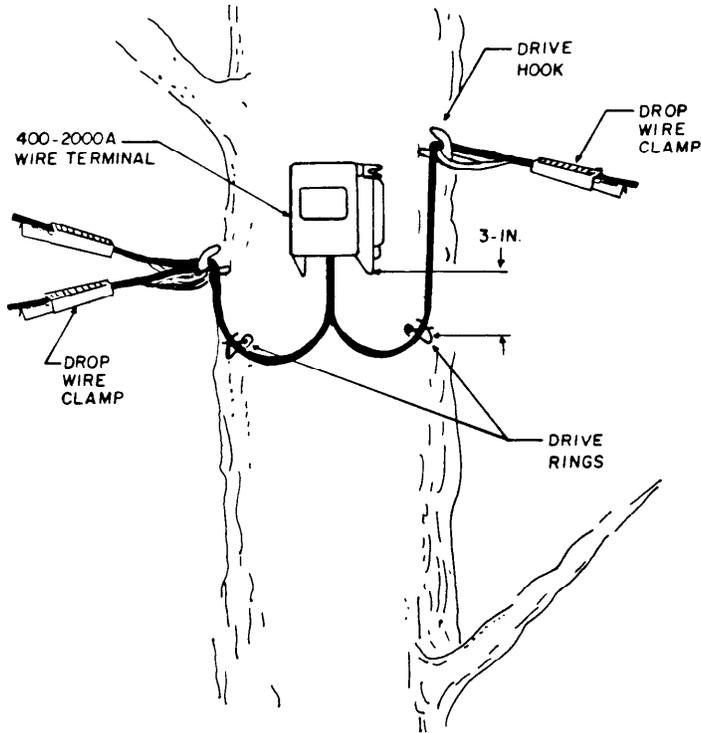

Fig. 20-Party Line Bridge
5.10 Make party line bridges at tree attachments as shown in Fig. 20. Attach the 400-2000A wire terminal to the tree with two 2-inch No. 10 round head galvanized wood screws. See Section 462-240-900 for the installation of the 400-2000A wire terminal.